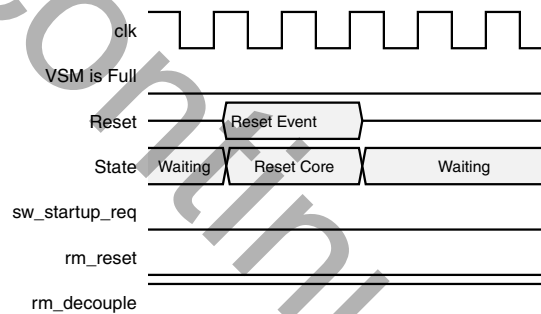

Figure 3-17: `vsm_<name>_rm_decouple` during a core reset while the Virtual Socket Manager is empty
1. If the Virtual Socket was empty before reset, `vsm_<name>_rm_decouple` will assert during reset. See Figure 3-17.
Figure 3-17 shows an empty Virtual Socket Manager (`vsm_<name>_rm_decouple = 1`) during a core reset.